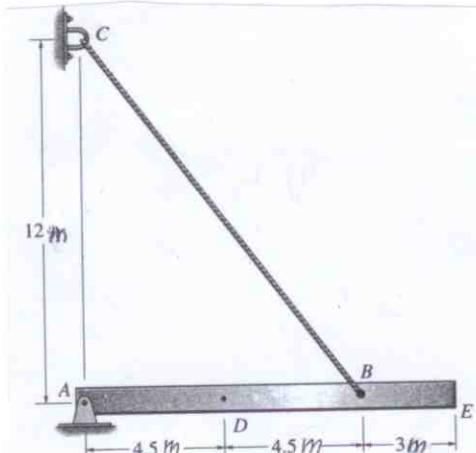

Fig. 2
**Problem 2:** Draw the influence line for (a) the force in the cable BC, (b) the vertical reaction at A, and (c) the moment at D (Fig.2).